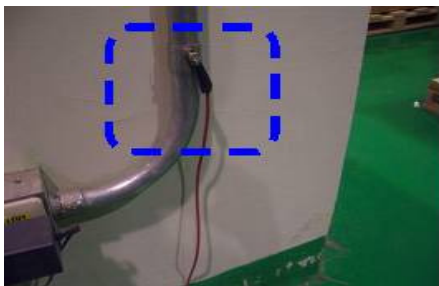

Figure 1
1. Use metal wire (or conductor, A point) connected to a ground point (see blue dash square in Figure 1).